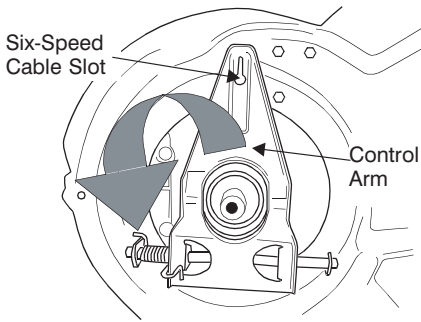

Figure 24
- Pivot the control arm down away from the pulley and belt. See Figure 24.